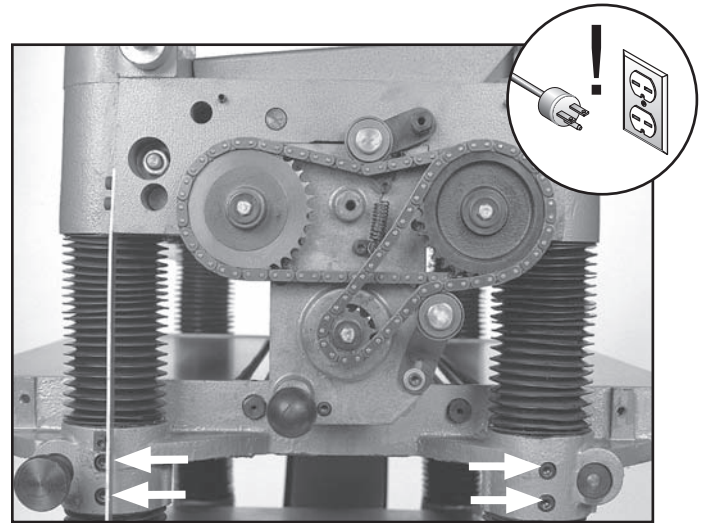

Figure 25. Table micro-adjustment screws.
9. Micro-adjust the table position by loosening the cap screws shown in **Figure 25** and lifting the table upward or downward until the table and cutterhead are in alignment.